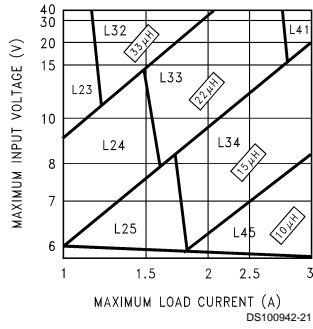
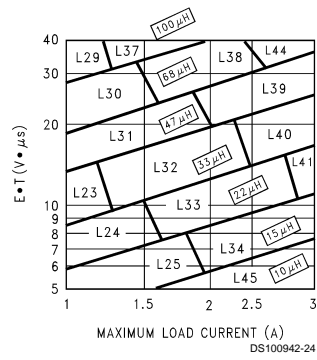

FIGURE 3. LM2670-3.3
FIGURE 6. LM2670-ADJ
Step 3: Determine the inductor required by using one of the four nomographs, *Figure 3* through *Figure 6*. Table 1 provides a specific manufacturer and part number for the inductor.
Step 5: Determine an input capacitor from Table 4 for fixed output voltage applications. Use Table 2 to find the specific capacitor type. For adjustable output circuits select a capacitor from Table 2 with a sufficient working voltage (WV) rating greater than $V_{in\ max}$, and an rms current rating greater than one-half the maximum load current (2 or more capacitors in parallel may be required).
Step 3: Use the nomograph for the 3.3V device, *Figure 3*. The intersection of the 16V horizontal line ($V_{in\ max}$) and the 2.5A vertical line ($I_{load\ max}$) indicates that L33, a 22 μ H inductor, is required.
Step 3: To use the nomograph for the adjustable device, *Figure 6*, requires a calculation of the inductor Volt•microsecond constant ($E \cdot T$ expressed in $V \cdot \mu s$) from the following formula:
Using *Figure 6*, the intersection of $27\text{V} \cdot \mu\text{s}$ horizontally and the 2A vertical line ($I_{\text{load max}}$) indicates that L38, a $68\mu\text{H}$ inductor, should be used.
Important Note: When using the adjustable device in low voltage applications (less than 3V output), if the nomograph, *Figure 6*, selects an inductance of $22\mu\text{H}$ or less, Table 6 does not provide an output capacitor solution. With these conditions the number of output capacitors required for stable operation becomes impractical. It is recommended to use either a $33\mu\text{H}$ or $47\mu\text{H}$ inductor and the output capacitors from Table 6.